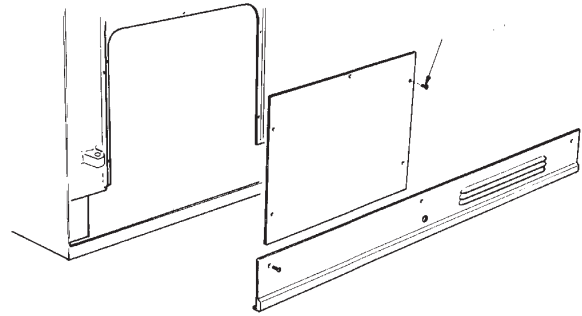

Fig. 20
- SEE FIG. 20
2. Remove (5) inner panel securing screws and remove panel.
- 3 Remove the (3) plinth securing screws and remove plinth.